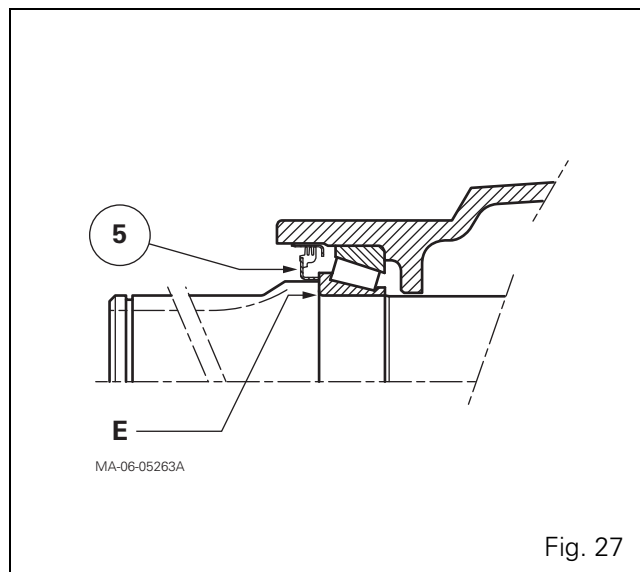

Fig. 27
85. Fit the new three-lipped seal (5) level with shoulder E (Fig. 27) of the flanged axle shaft or straight axle shaft.